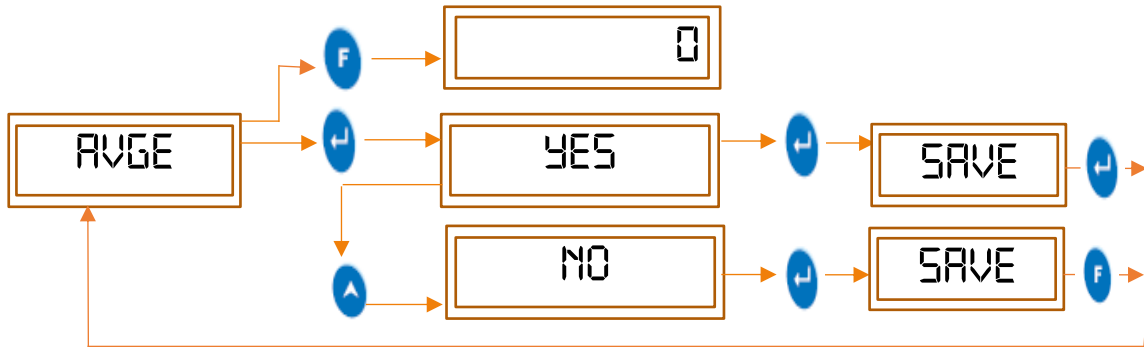

Figure 31 AVGE (Average Enable)
- Averaging of pressure input data can be enabled/disabled by selecting YES/NO option in Average Enable menu as shown in figure 31.